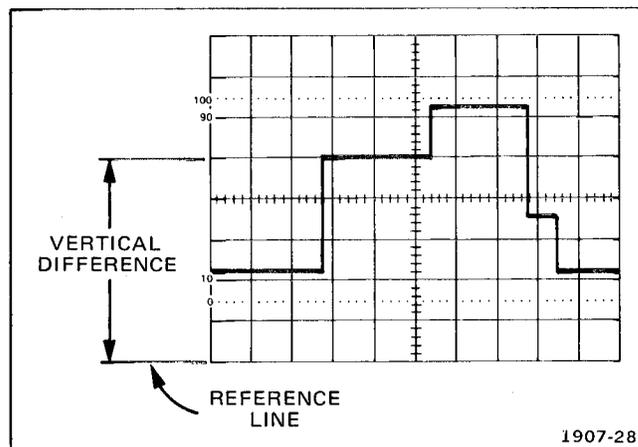

Fig. 2-13. Instantaneous voltage measurement.
4. Set the AC-GND-DC switch to GND. Adjust the trace to some reference line (see Fig. 2-13).
The vertical difference is 5 divisions (see Fig. 2-13). The VOLTS/DIV switch is set to 10 mV. The waveform appears above the reference line.